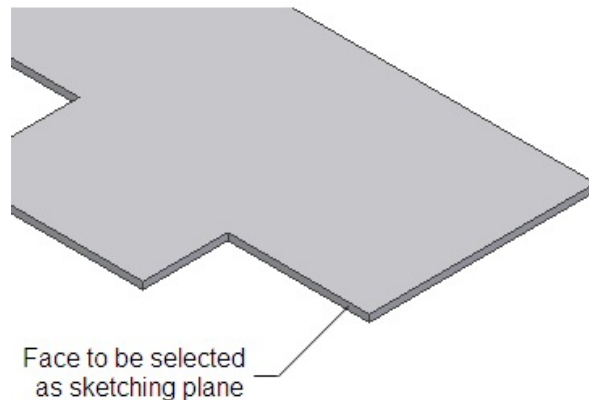

Figure 15-95 Face to be selected as the sketching plane
1. Choose the **Start 2D Sketch** tool from the **Sketch** panel of the **3D Model** tab and then select the face as the sketching plane, as shown in Figure 15-95.